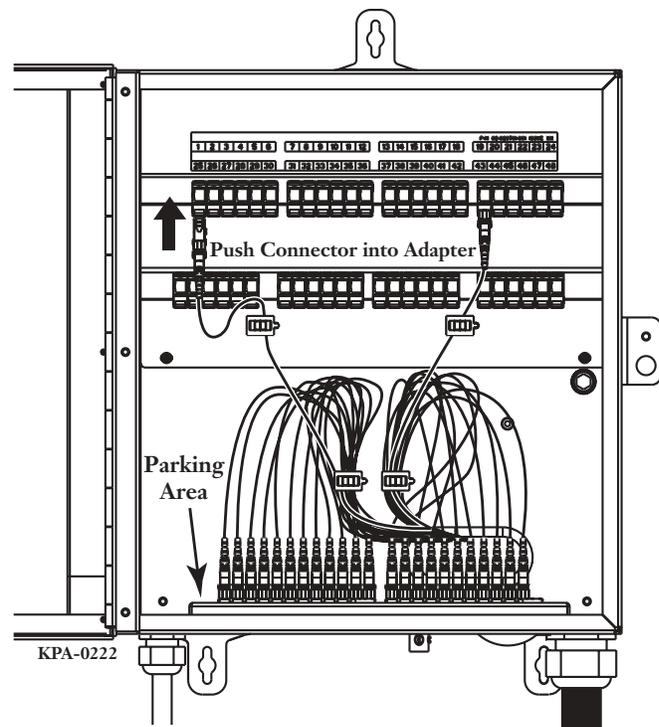

Figure 6 — Plug OptiFit Connector into Adapter
Step 2 Select the appropriate connector from the parking area (Figure 6). Remove the dust cap and clean each connector per standard local practices before mating.